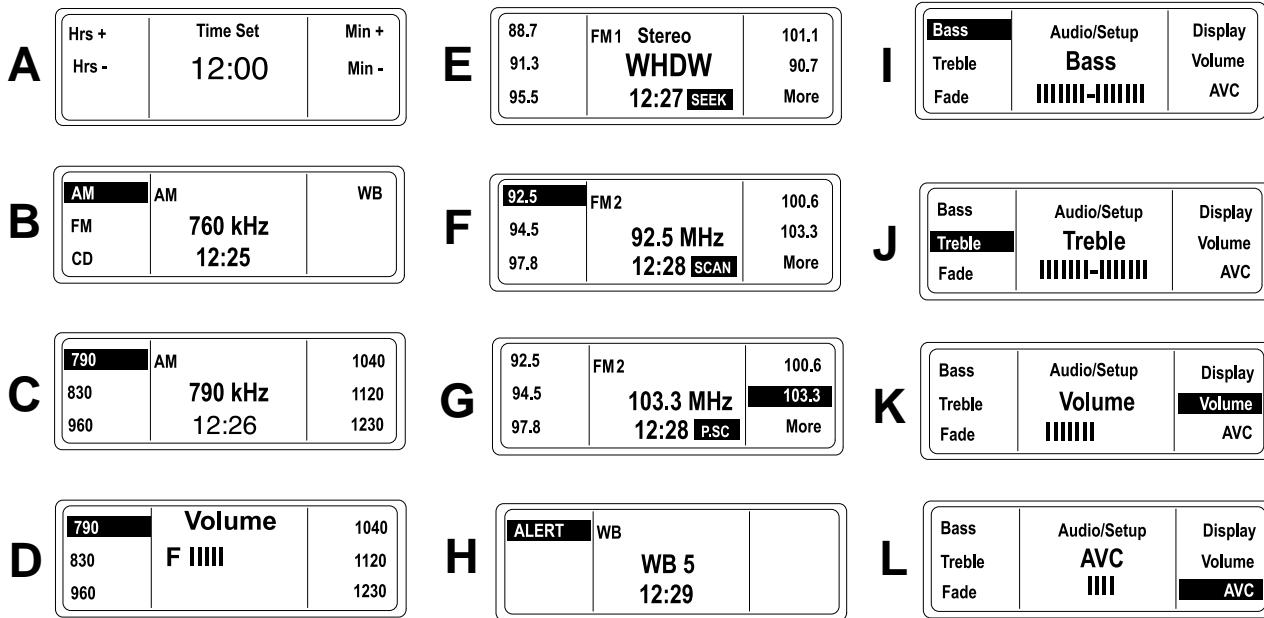

Figure 24. Radio Receiver LCD Display Examples: FLHTCUSE3
See A in Figure 24. To increase the hours in the display press the Hrs+ soft key. To decrease hours press the Hrs- soft key. When the hour is correct, release the soft key.
See B in Figure 24. The LCD highlights the selected band.
See E in Figure 24. Normally, the Advanced Audio System plays FM signals in stereo. The LCD will indicate **STEREO**.
See H in Figure 24. Broadcast by the National Oceanic and Atmospheric Administration (NOAA) National Weather Band (WB) frequencies are available in North America only.
See D in Figure 24. At any time the receiver is playing, the volume can be adjusted by pressing the **AUDIO** switch up (+) to increase volume or down (-) to decrease volume.
See E in Figure 24. In SEEK, the radio tunes in to the next strong station.
See F in Figure 24. Press and hold the **MODE SEL** switch **UP** or **DN** approximately 5 seconds to scan the band for strong station signals. Each strong station remains tuned in for 8 seconds before the radio scans to the next station. The receiver will continue to scan until cancelled.
*See C in Figure 24. AM can store 6 preset frequencies.*
*See E and F in Figure 24. Separate FM1 and FM2 bands allow the rider to store 2 sets of 5 preset FM frequencies (10 total). Use the **More** soft key to toggle between FM1 and FM2. The full range of FM frequencies can be selected in either FM1 or FM2.*
See G in Figure 24. In preset SCAN, the radio continuously tunes from one preset station to the next until the preset SCAN is cancelled. A PSC icon will display while preset SCAN is active.
See D in Figure 24. Volume is adjusted with the **AUDIO** switch on the left hand grip. Using left thumb, press the **AUDIO** switch up (+) to raise the volume or down (-) to lower the volume. The LCD displays the word Volume and a bar graph that changes length with the volume.
See K in Figure 24. Volume can also be adjusted in Audio/Setup.
**BASS:** See I in Figure 24. Press **AUDIO** to display Bass Audio/Setup. Using the left thumb, press the **AUDIO** switch up (+) to increase the bass range or down (-) to lower the bass range. The LCD displays the word Bass and a dashed line that changes length with the setting. The short center dash indicates a middle setting.
**TREBLE:** See J in Figure 24. From Bass Audio/Setup, press and release **AUDIO** to sequence to Treble. Using the left thumb, press the **AUDIO** switch up (+) to increase the treble range or down (-) to lower the treble range.
See J in Figure 24. The LCD displays the word Treble and a bar graph that changes length with the setting. The short center dash indicates a middle setting.
See L in Figure 24. Automatic Volume Control (AVC) automatically adjusts volume level to compensate for ambient noise associated with motorcycle speed.